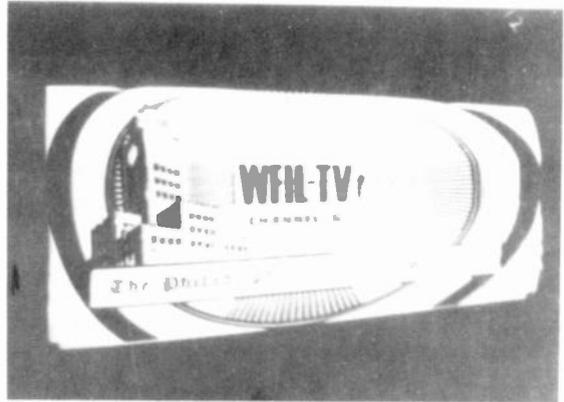

FIGURE 21-20 TRAPEZOIDAL RASTER, WITH KEYSTONING CAUSED BY SHORT ACROSS ONE VERTICAL COIL IN YOKE.
**Opens and shorts in the vertical scanning coils.** When the two coils are in series, an open in one means no deflection and no height. With parallel coils, one section can affect the top or bottom part of the raster. Shorted turns in either coil, however, produce a trapezoidal raster (Fig. 21-20). Any form of trapezoidal distortion is practically always caused by a defective yoke, or